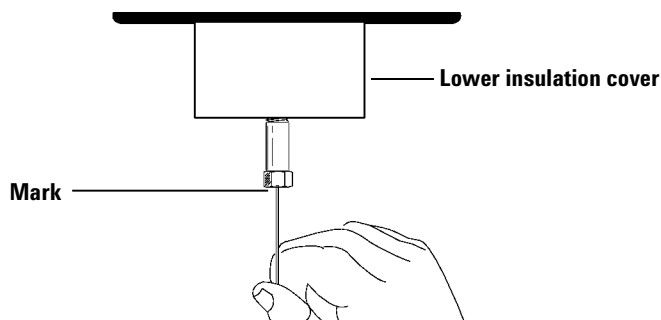

Figure 64 Adjusting the column
- 10 Adjust the column position so that the correction fluid mark on the column is even with the bottom of the nut. See Figure 64.